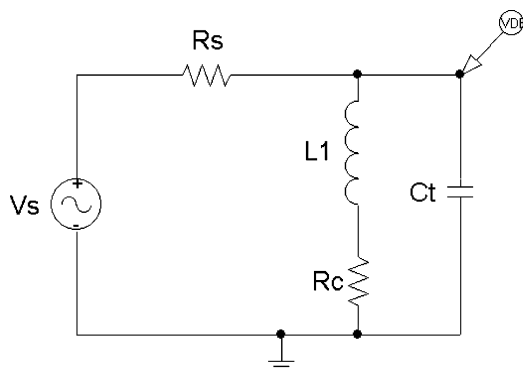

FIGURE 6.41: Parallel-tuned LCR circuit
- (1) Fig. 6.41 shows a resonant circuit fed from a voltage source in series with a large resistance R_s thus simulating a current source. Determine the -3 dB bandwidth, loaded and unloaded Q -factor, and the dynamic impedance $R_s = 110 \text{ k}\Omega$, $R_L = 10 \Omega$, $C = 5.3 \text{ nF}$, $L_1 = 470 \text{ uH}$,